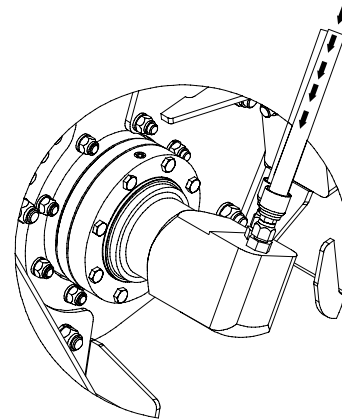

Figure 13
2. Connect the Supply Line to the “A” port on the hydraulic motor. (Hose shown with directional arrows) [Figure 13].